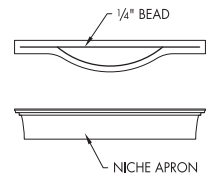

FIGURE 6
6. Apply a 1/4" bead of polyurethane construction adhesive along the top edge of the Niche apron (SEE FIGURE 6).